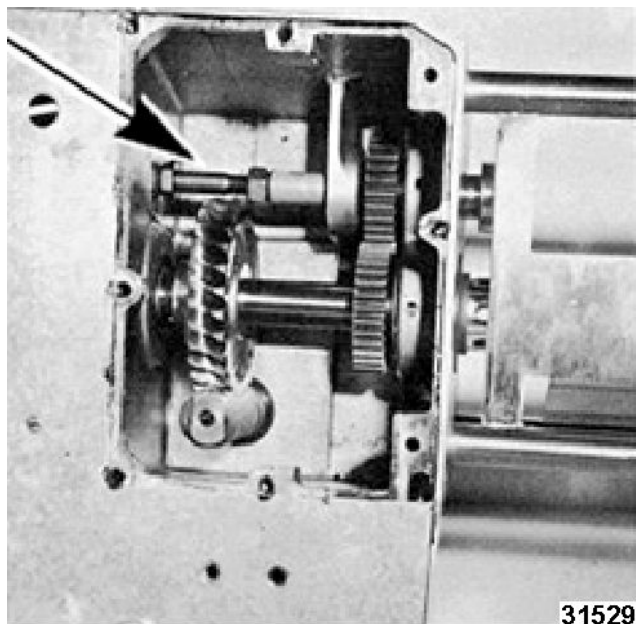

Fig. 34
- H. Use a wrench on the center nut (Fig. 34) and jack the shaft and bearing assembly out of the gear case, leaving the 32T gear to be removed directly from the gear case.